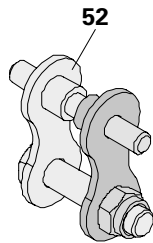

Fig. A9.02
1. Disassemble the adapter. (Fig. A9.02 + Fig. A9.03a)
2. Insert bolts (**52.1**) and threaded bolts (**52.2**) through the holes on the connection lug of the Push-Pull Prop (RS).